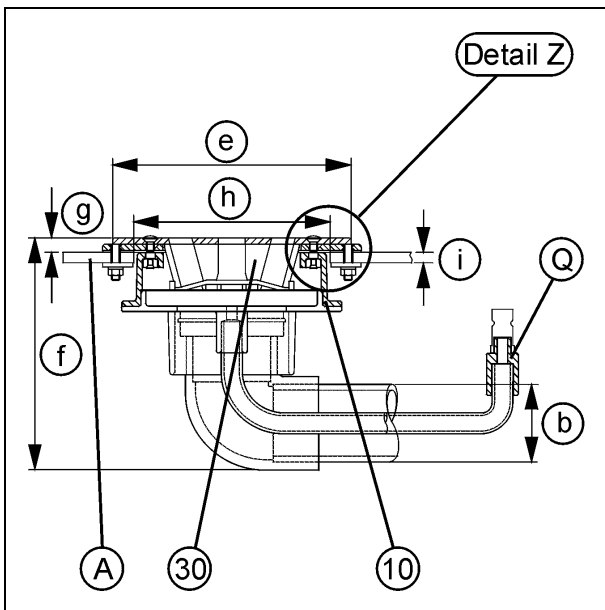
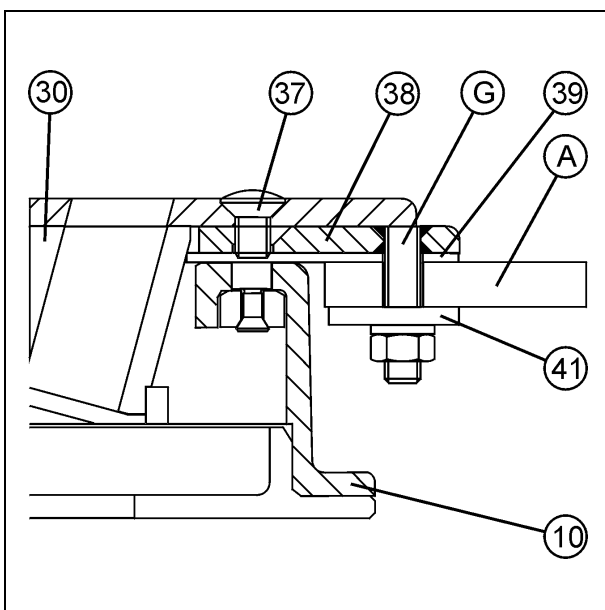

Fig. 6
Fig. 7
see Fig. 6 and Fig. 7
- Z For detail see Fig. 7